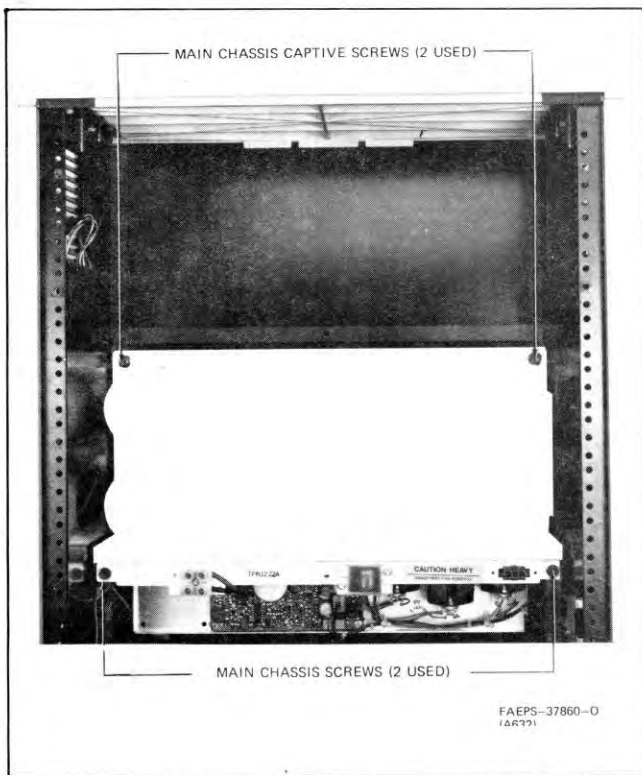

Figure 2. Power Supply Mounting Hardware
4.3 AUXILIARY REGULATOR CHASSIS REMOVAL (Refer to Figure 2)
4.4 POWER SUPPLY REMOVAL (Refer to Figures 2 thru 5)